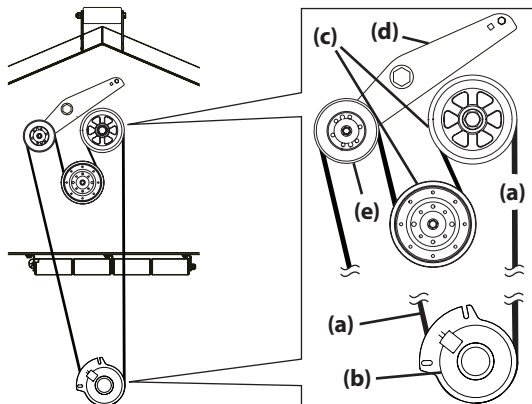

Figure 33
- Remove the PTO belt (a) from the deck as instructed in the Deck Removal section then remove it from around the PTO clutch (b). See Figure 33.
- Route the PTO belt (a) as shown in Figure 33.